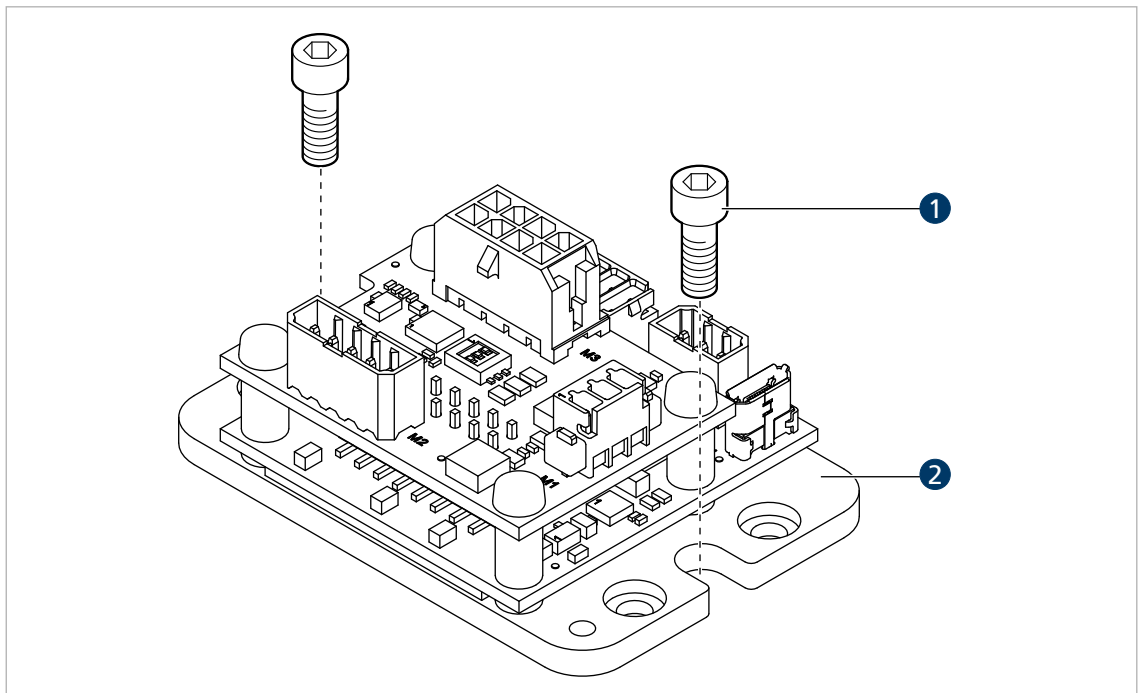

Fig. 9: Attachment via the side plates
- ▶ Attach the Motion Controller (2) to the mounting plate with screws (1) as described in Fig. 9.